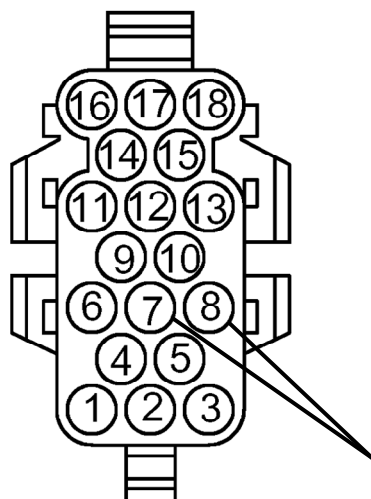

Figure 8-5: Main Connector (Front View) - Microswitch Pinout
3. Connect an ohmmeter to pins 7 & 8 in the PU main connector (Figure 8-5) and verify that the switch is in an open state.